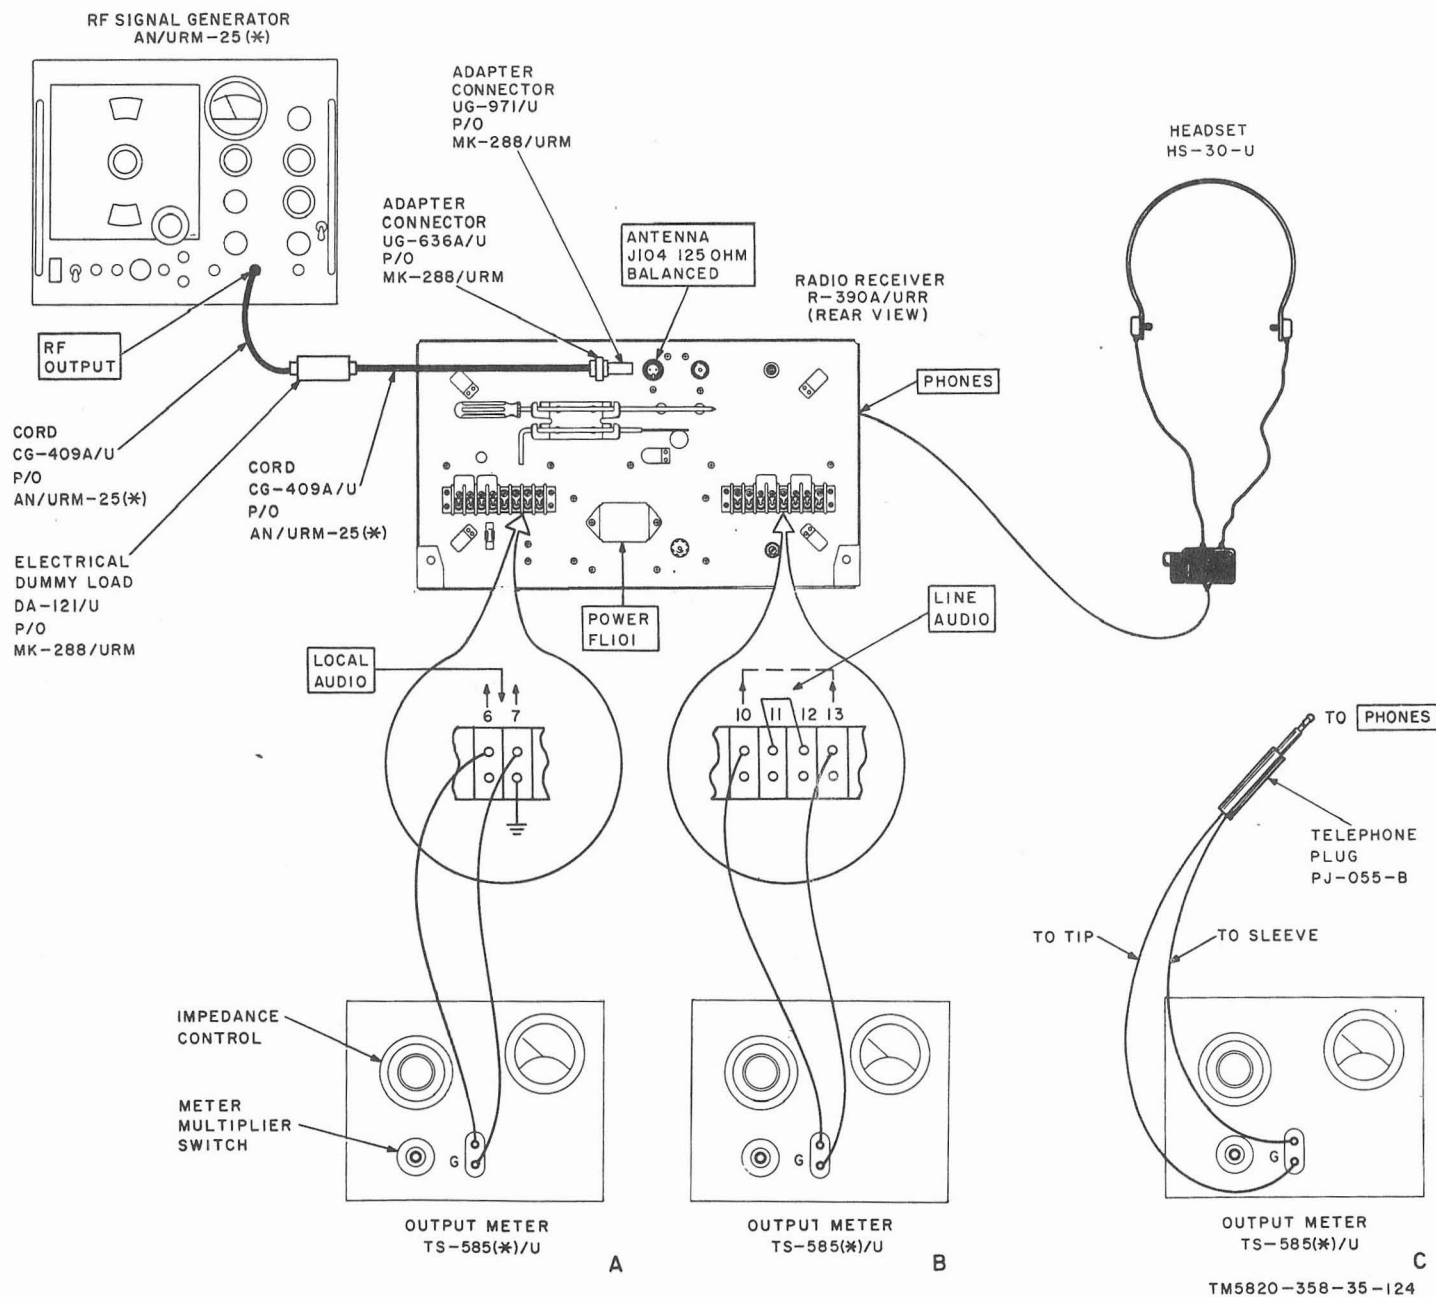

Figure 79.
95. Audio Output Tests (fig. 79)
b. Test Connections and Conditions. Connect the equipment as shown in A, figure 79.